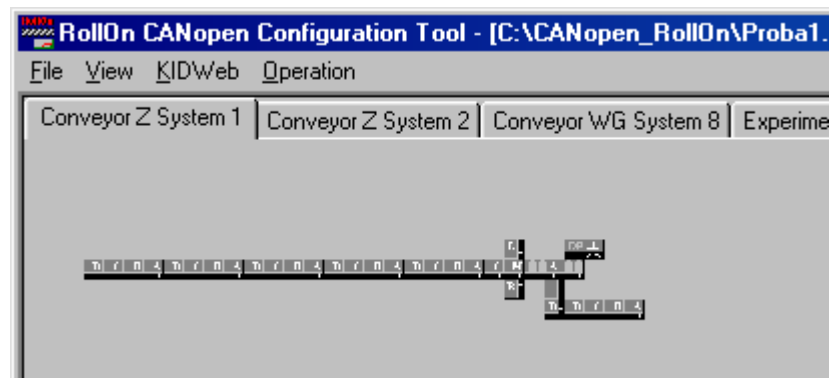
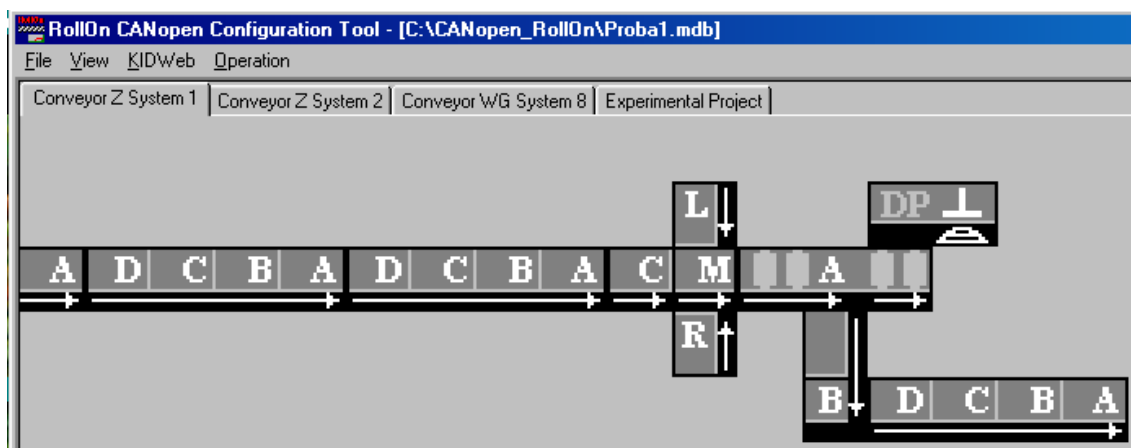

Fig. 4.39
Fig. 4.40
- A 50% version is illustrated in Fig. 4.39 and a 200% version is shown in Fig. 4.40.
Some conveyors may be of **open** type, i.e. they have clearly defined **start** point(s) as well as clearly defined **end** point(s). There isn't any logical or operational feedback connections between the start point(s) and the end point(s) in this case. The control system shown in Fig. 4.39 is a typical configuration for an open type conveyor.
Some conveyors may be of **closed** type, i.e. they are similar to a ring. The control system shown in Fig. 4.39 is completely suitable for a closed type conveyor but needs a feedback connection **from zone A** (being the last zone) of the last control module **to zone D** of the first module.